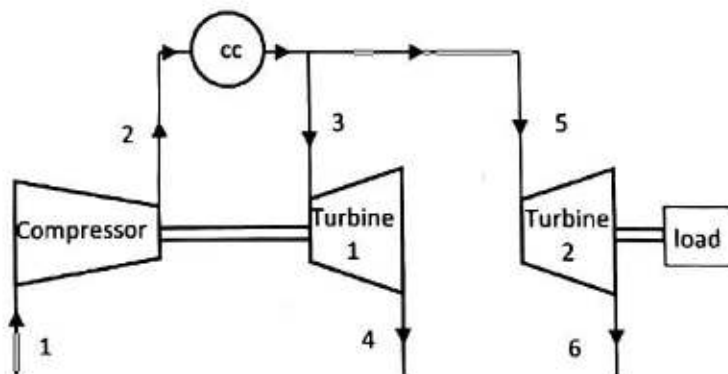

Fig Q2
2. In the open cycle gas turbine plant shown in Fig Q2, turbine 1 drives the compressor and turbine 2 provides the power output.